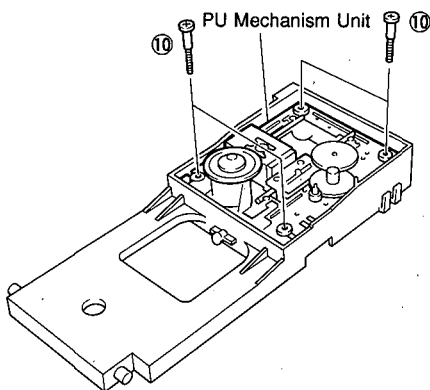

Fig. 5
- b. Pull out 4 Pins (⑩) and then remove the PU Mechanism Unit as shown in Fig. 5.